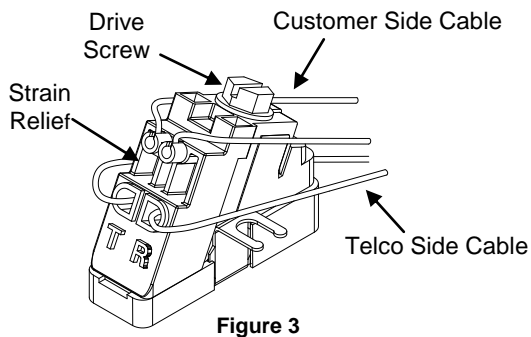

Figure 3
4.3.1 For sealed IDC termination type protectors; terminate the Telco Side Cable by loosening the drive screw and pulling up the driver and insert un-stripped Telco Side Cable in the bottom ports (one conductor to Tip 'T' and one to Ring 'R') until they are seated at the bottom of the ports. (See Figure 3.)
4.3.2 Insert un-stripped Customer Side Cable in the top ports (one conductor to Tip 'T' and one to Ring 'R') until they are seated at the bottom of the ports. (See Figure 3.)
4.3.3 Re-tighten the drive screw bring the driver down to the protector base. (See Figure 3.)
4.3.4 Set the Customer Side Cables into the strain relief cutouts on the sides of the Customer Side Cable ports. (See Figure 3.)